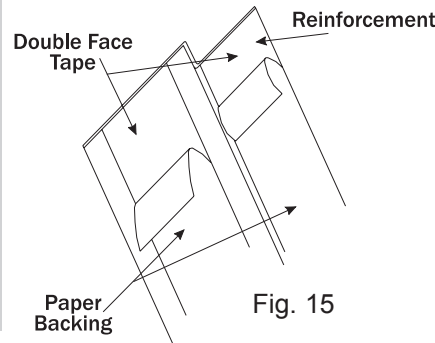
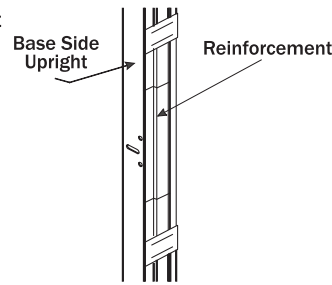

Fig. 15
Fig. 16
- 2 Expose double face tape by removing paper backing on two strips of tape (Fig. 15) and press into position to secure the sleeve to the frame (Fig. 16).